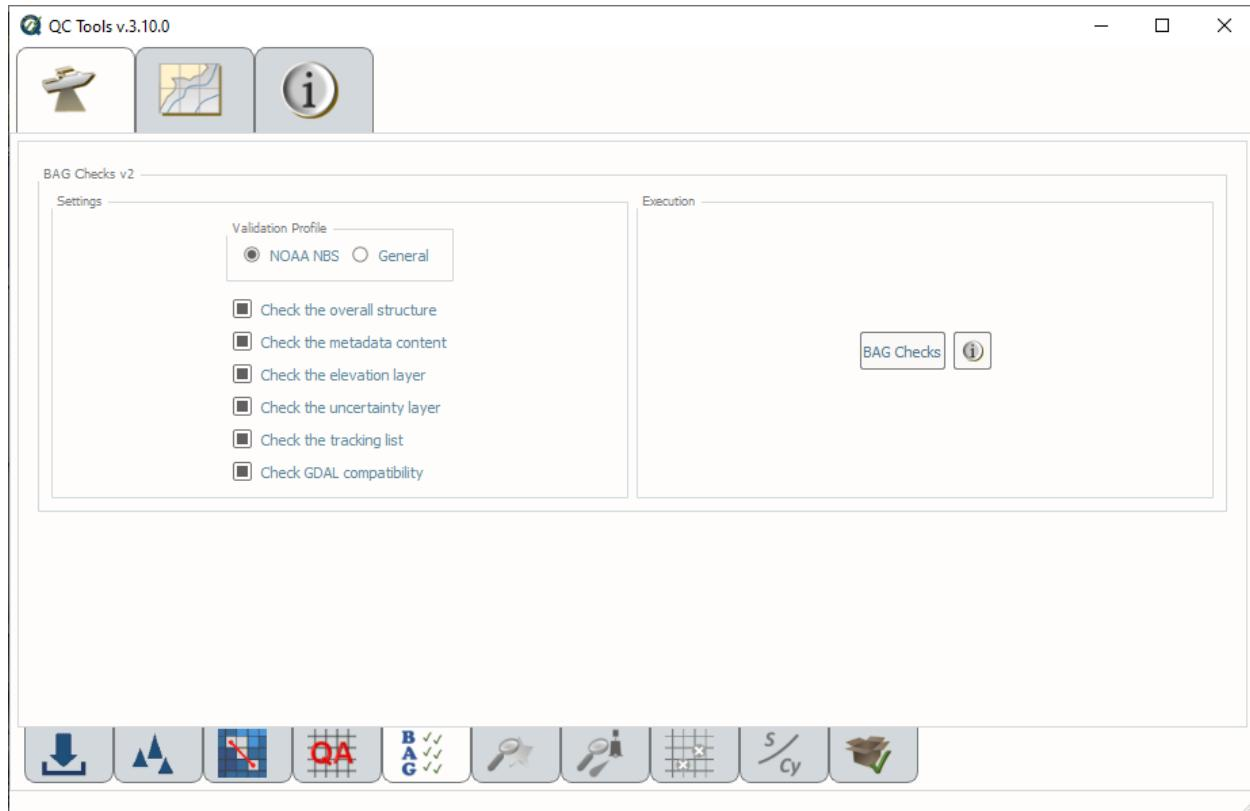

Fig. 2.39: The **BAG Checks** tab.
- Select the **BAG Checks** tab (Fig. 2.39) on the bottom of the QC Tools interface.